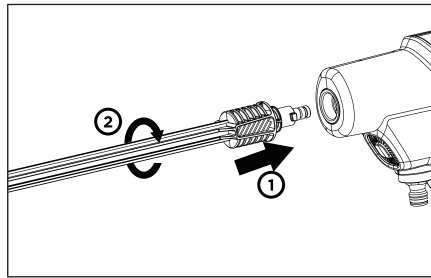

Fig. 1
ASSEMBLING THE SPRAY WAND (Fig. 1)
1. Insert the end of the spray wand with multi-spray nozzle into the power cleaner and rotate clockwise to secure. (Fig. 1)